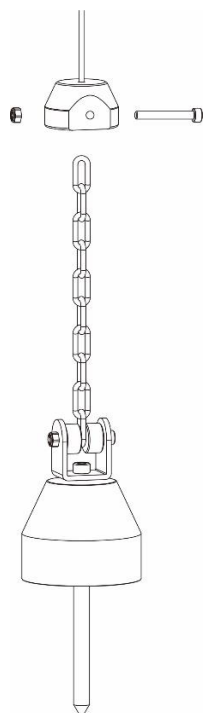

Fig.7
8.3.3 Pull the cable wire to fully retract the crimped steel pipe into the top of the hanging bolt, put the end of the iron chain to go through the hanging bolt of the sensing weight, Put the M4 screw to go through the hanging bolt, iron chain, and fix the arresting nut and tighten it firmly (Fig.7).